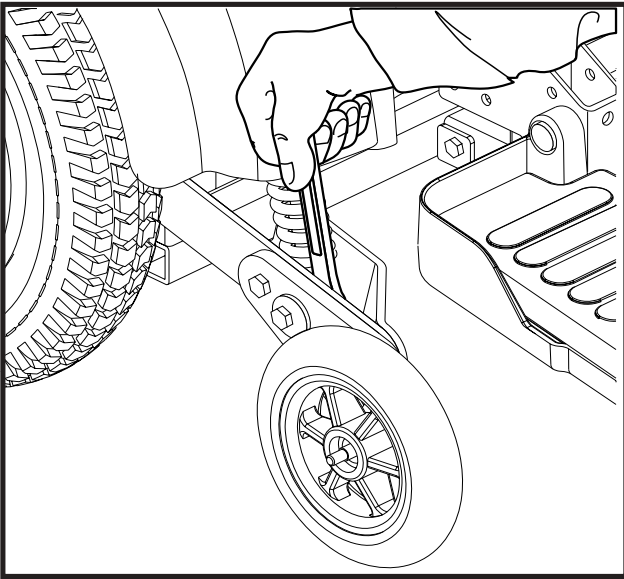

Figure 20. Anti-Tip Bracket (Inner Locknut)
1. Place an adjustable wrench on the inner locknut of the anti-tip bracket located right after the shock strut. See figure 20.